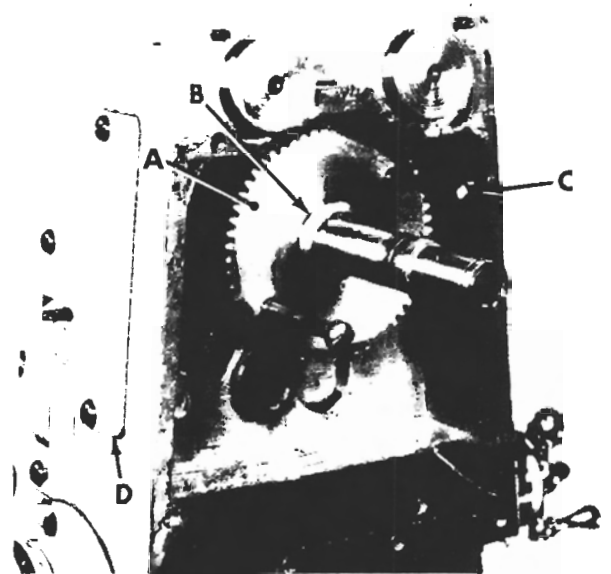

Figure 24
19. Remove collar (B, fig. 24) from spindle.
20. Insert top guard screws (C) in holes in spindle gear (A) and turn them until gear is removed. Remove cover (D).